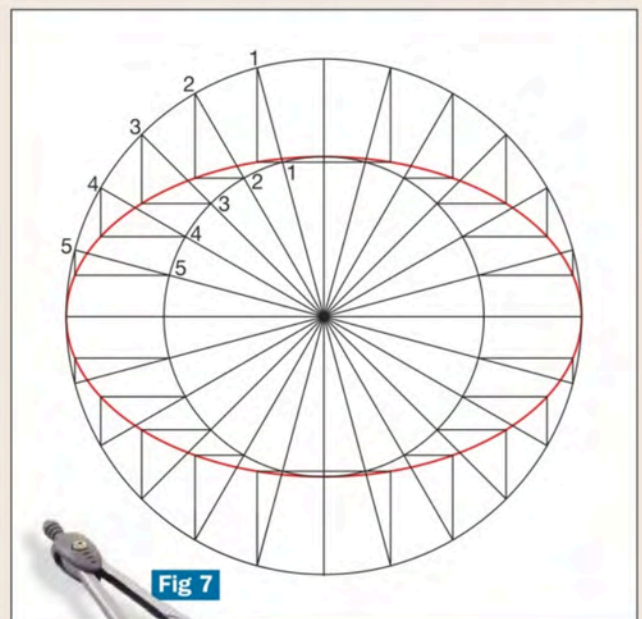

Fig 7
■ The concentric circle method, fig 7. Draw two lines to represent the major and minor axes, and measure their lengths. Use your compasses to draw two concentric circles which have half of each axis as the radius. Next, draw in diameters at 15° spacings using a protractor. Draw a vertical line where each diameter intersects the larger circle, and a horizontal line where it intersects the smaller circle. Each point where these lines intersect is on the ellipse, which you can now draw freehand.